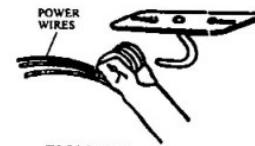

FIGURE 3
1. Take care not to damage the fan wires and hook the rubber bushing at an approximate angle of 30 degrees on the hook as shown in Fig. 3